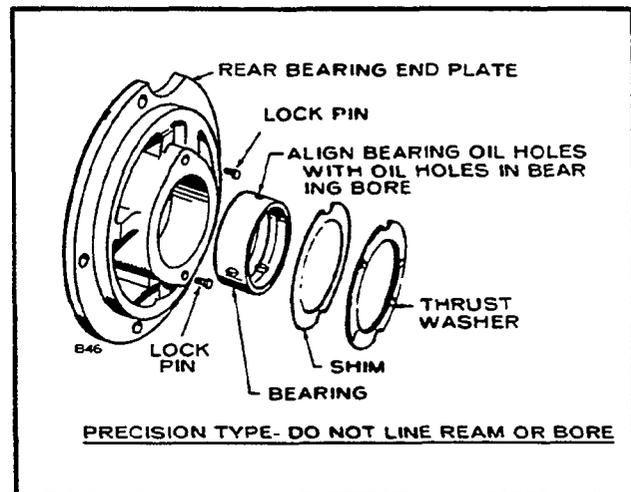

FIGURE 38. BEARINGS FOR REAR BEARING PLATE
**Note:** Original front bearing uses a separate thrust washer. Replacement front bearing is a one piece assembly with thrust washer part of the bearing. Do not use a separate thrust washer when installing this replacement part. See Figures 38 and 39.